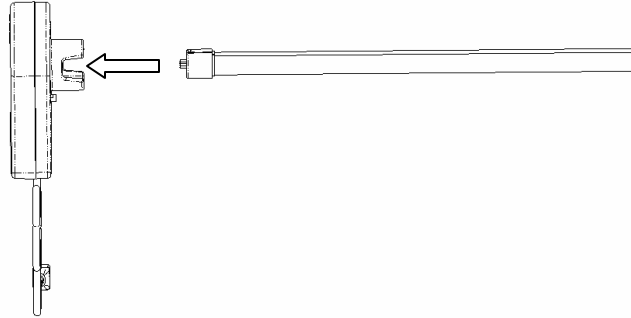

Figure 10 – Replacing lamp bulb into UV unit
7. Insert the bulb into the base continually pushing gently into the lamp base as shown in Figure 10.